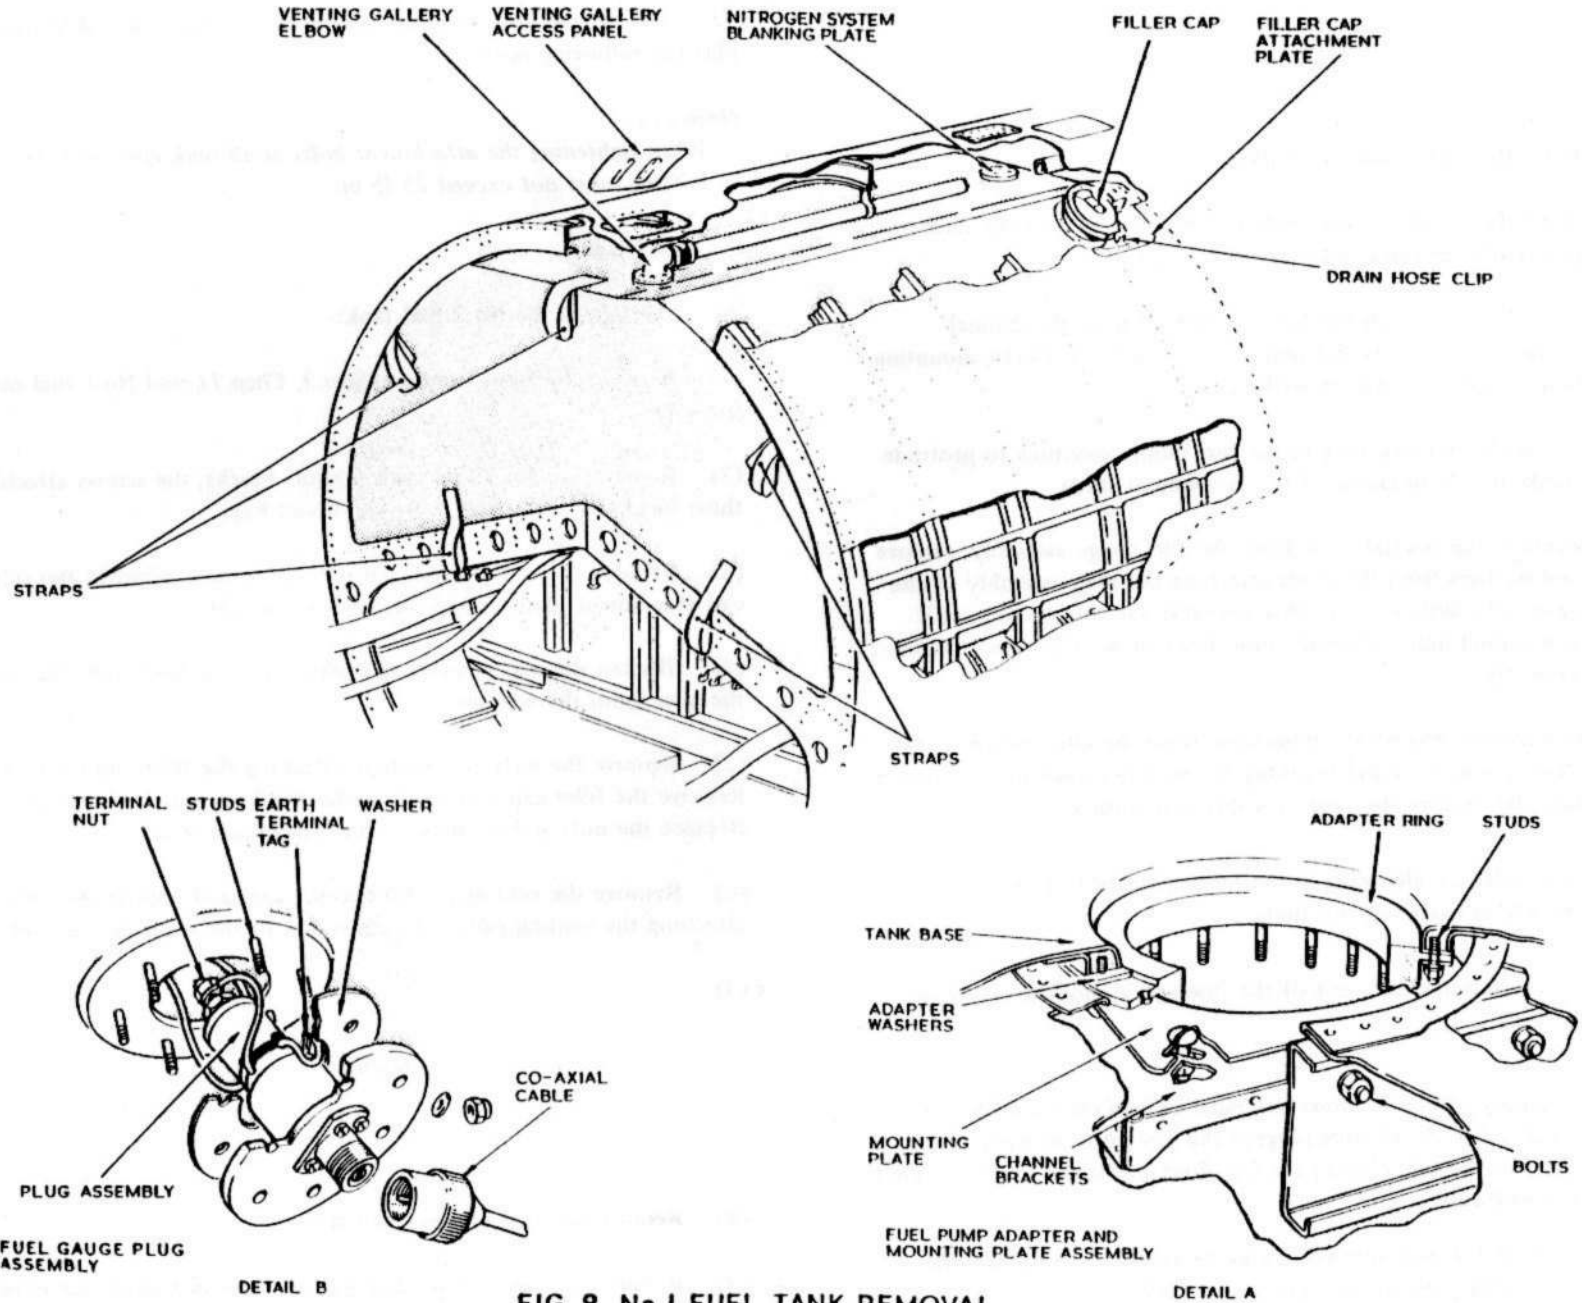

FIG. 8. No.1 FUEL TANK REMOVAL
Removal (*fig.8*)
- (1) Remove the front fuselage (*Sect.3, Chap.1*), and No.1 fuel tank (*para.42*).
- (2) Remove the No.1 fuel tank support blocks; the screws attaching these blocks are accessible from the bomb bay.
- (3) Remove the screws from the outer and inner edges of the filler cap attachment plate (*fig.8*), and remove the plate.
- (4) Slacken the clip securing the filler cap drain hose and disconnect the hose from the adapter.
- (5) Remove the nuts and washers attaching the filler cap to the tank. Remove the filler cap and fit a circular blanking plate in its place. Replace the nuts and washers on the attachment studs.
- (6) Remove the venting gallery access panel and remove the nuts attaching the venting gallery T-connection to the studs on the tank.